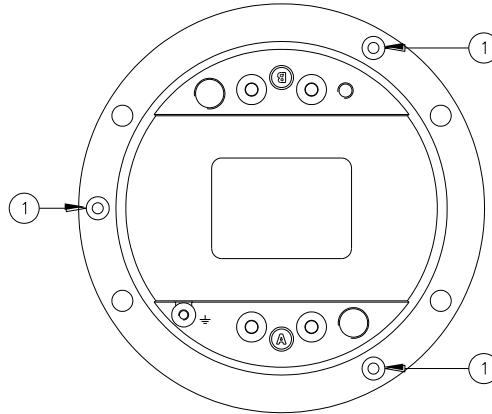
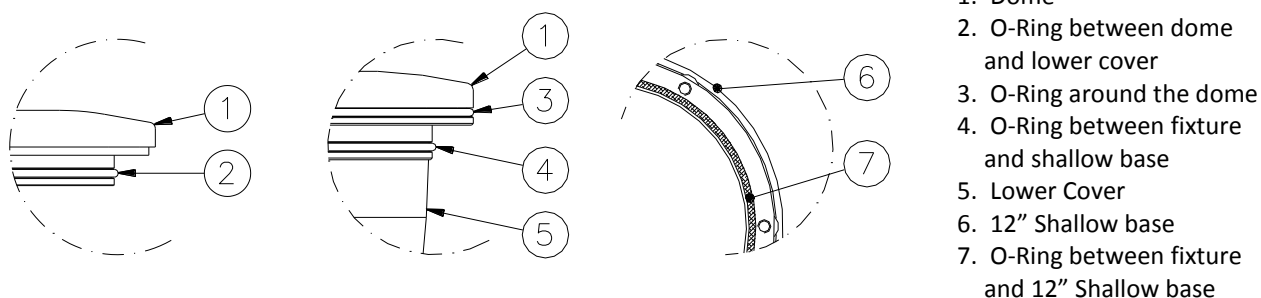

Figure 23 - Lower Cover Fixing Screws
Figure 25 – Fixture Gaskets
- Open the fixture by unscrewing the three locking screws HSFH M5x10 (Figure 23 - n°1).
- three locking screws HSFH M5x10 (Figure 23 - n°1);
- O-Rings between dome and lower cover (Figure 25 – n°2);
Verify the correct position of O-Ring between dome and lower cover (Figure 25 – n°2);, mount the lower cover on the dome and fasten it by means the three screws HSFH M5x10 (Figure 23 - n°1). One drop of anaerobic adhesive lower type (e.g. LOXEAL 24-18) should be applied to the screws before installation; tightening torque is 2.5 Nm.
- O-Ring around the dome (Figure 25 – n°3);
- O-Ring between fixture and 8" shallow base (Figure 25 – n°4);
- O-Ring between fixture and 12" shallow base (Figure 25 – n°7);